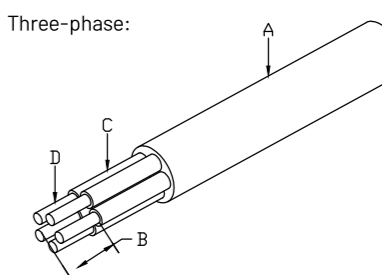

Figure 3-9 Strip off PE/N/L cables
1.Strip off L/N/PE cables as Figure 3-9: